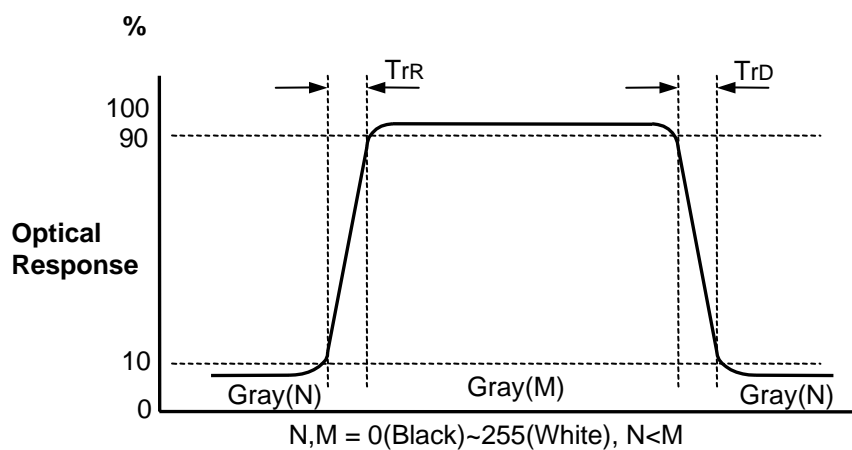

FIG. 3 Response Time
4. Response time is the time required for the display to transition from G(N) to G(M) (Rise Time,  $Tr_R$ ) and from G(M) to G(N) (Decay Time,  $Tr_D$ ). For additional information see the FIG. 3. (N<M)